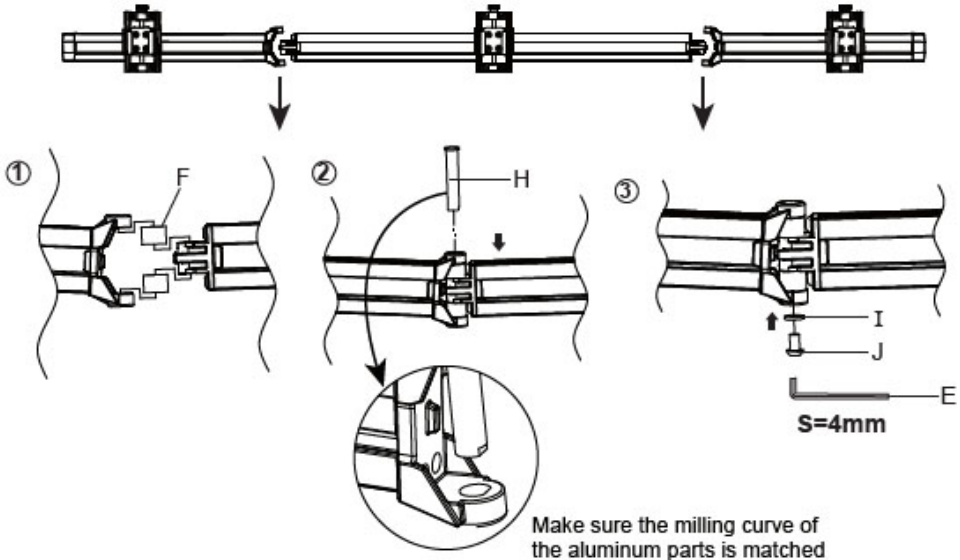

Figure 2A
1. Install **Left and Right Extension Arm** to the **Arm Assembly** using **Spacer (F)**, **Sleeve (H)**, **Washer (I)** and **6x15 Bolt (J)** and tighten them with **4mm Allen Key (E)**, see **Figure 2A**.